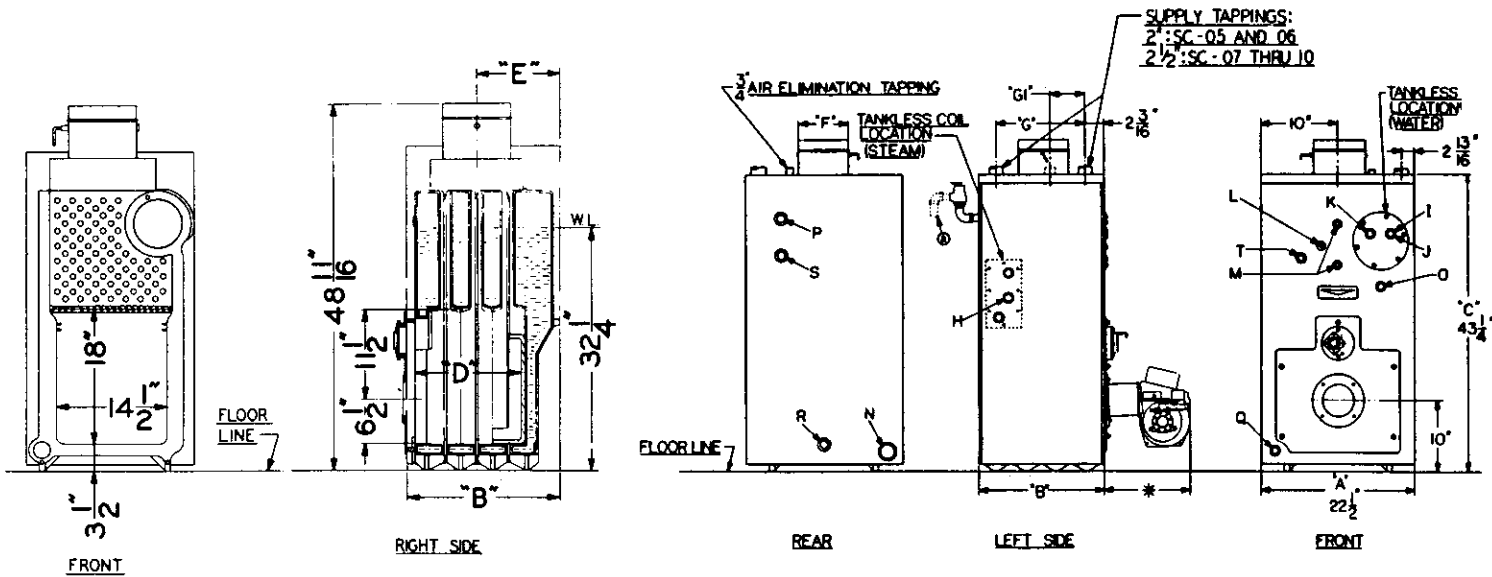
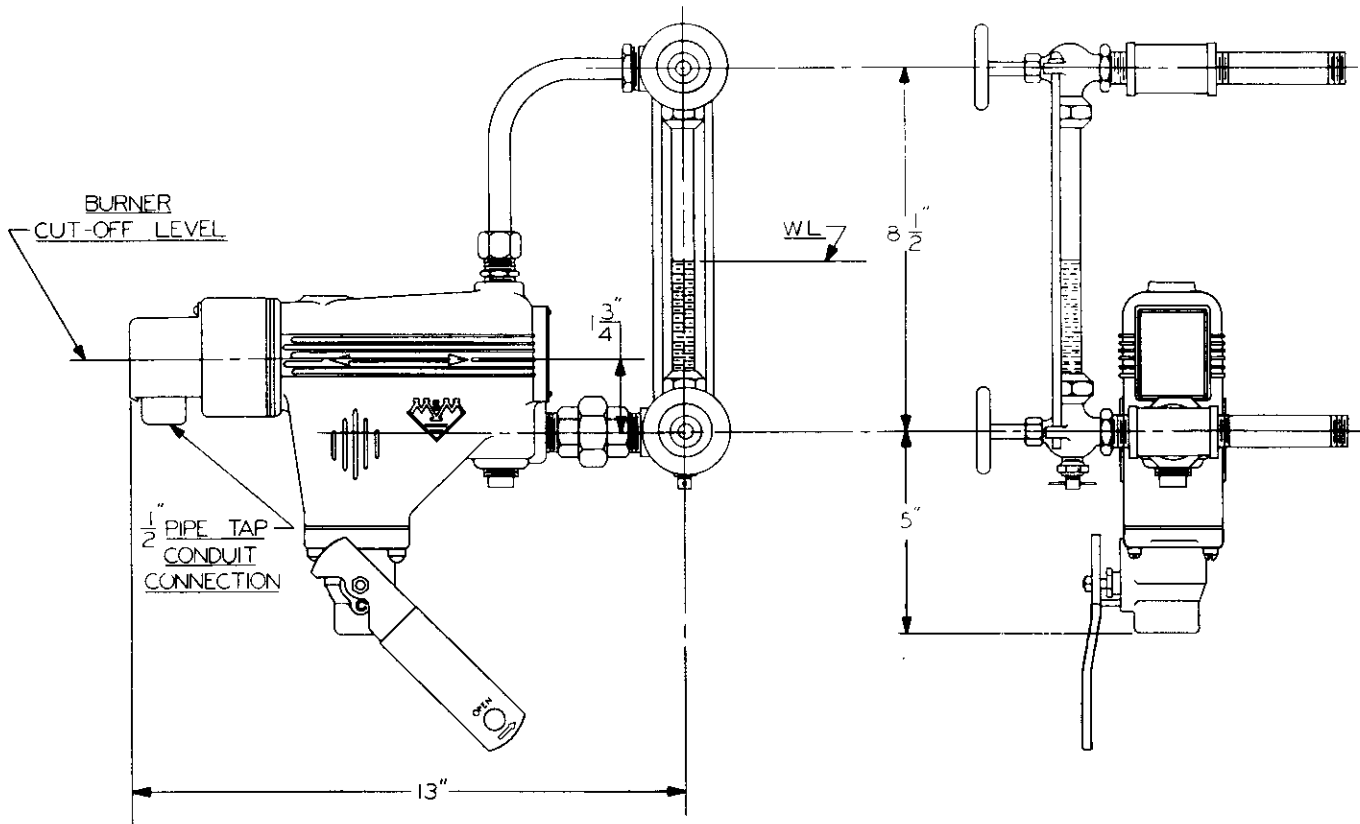

FIGURE 7
FIGURE 11
- 3— Install pressure gauge or theraltimeter in tapping provided. See Figure 7.
- 5— After all joints and connections have been proven water tight, remove cold water supply and plugs from all tapings that are to be used. See Figure 7 for tapping locations.
- a. **Water Boilers:** Install the limit or operating control, temperature & pressure gauge and the pressure relief valve. See Figure 7 for proper location.
- b. **Steam Boilers:** Install pressure gauge, gauge glass trim and safety valve. See Figures 7 and 8. For application of low water cut-off see Figure 11. For pump control or feeder application see Figures 9 and 10.